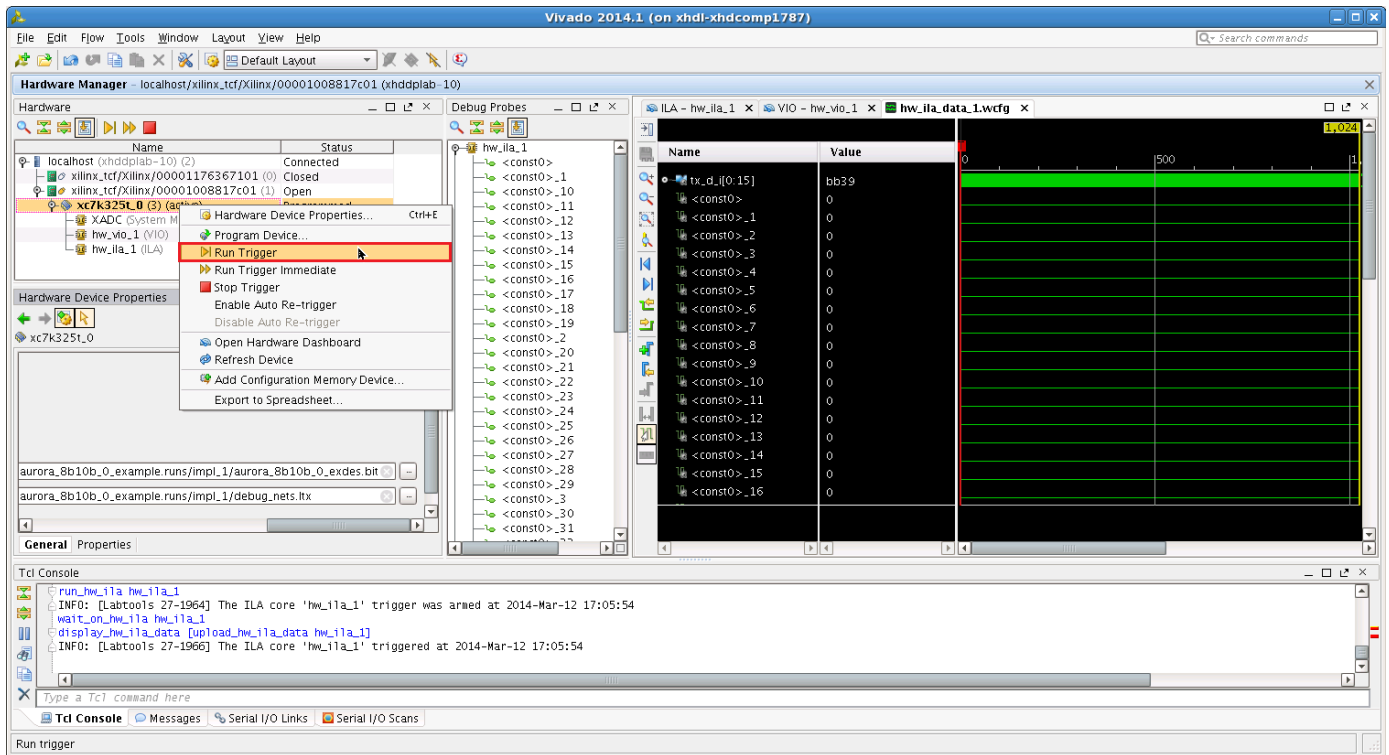

Figure 27: Run Trigger
1. Right-click the device in the Hardware list and select **Run Trigger** (Figure 27).